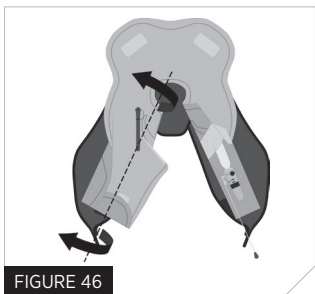

FIGURE 46
7. Fold inside edge in towards the centre of the bladder along fold line 7 (Fig 46).